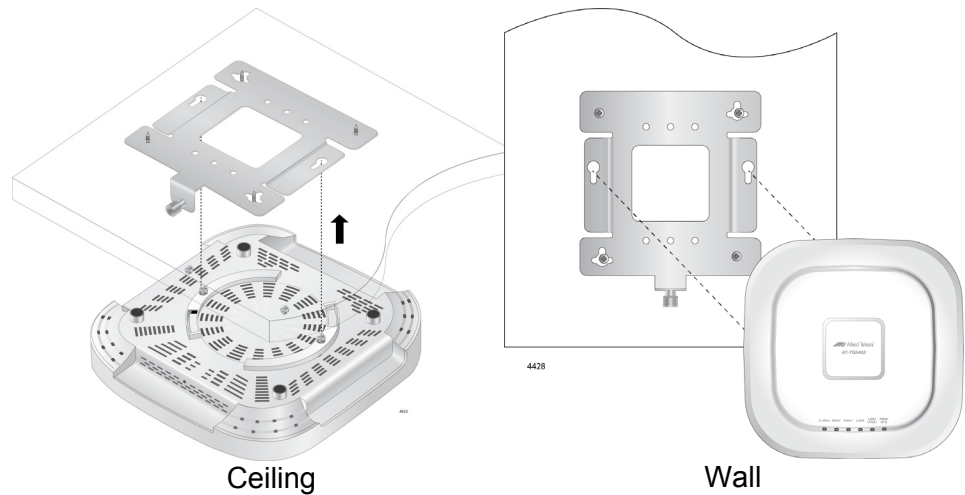

Figure 17. Align/Insert Access Point into Mounting Bracket
1. Align and insert the two access point chassis screws into the keyhole slots of the mounting bracket. Refer to Figure 17.